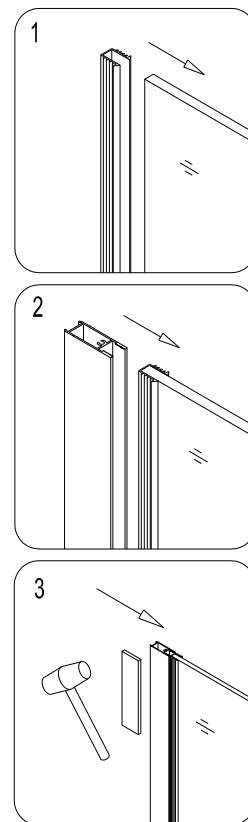

Fig 4
4. Locate the **Stationary glass (3)**. Small hole on the short side of the stationary glass should be on the bottom and away from the wall. Place the **U-shape seal gasket (21)** on the long (vertical) side of the glass panel. Push the **Stationary glass (3)** into **Glass profile for stationary glass (2)** groove using the hammer. To make it easy you can apply any liquid soap on the U-gasket before pushing the **Stationary glass (3)** into **Glass profile for stationary glass**. ( **NOTE: If the stationary Glass and the glass profile have been assembled, you can skip this step.** ) See Fig 4 for details.